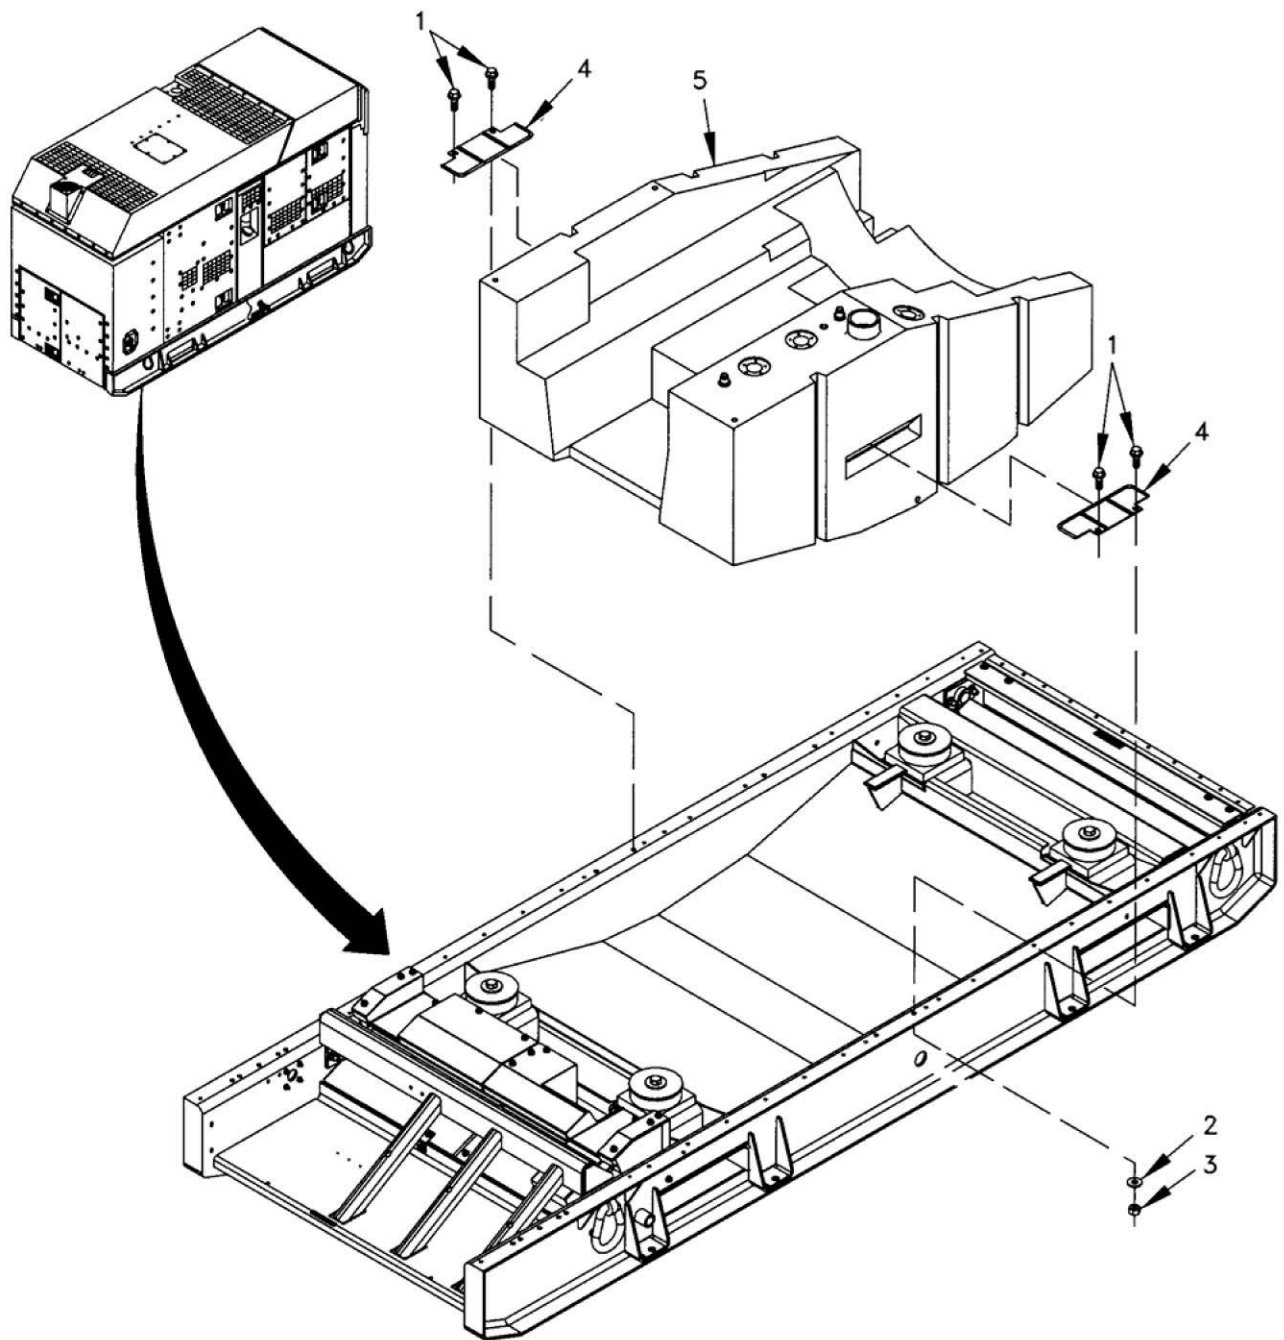

Figure 1. Fuel Tank Maintenance.
2. Remove four screws (Figure 1, Item 1), washers (Figure 1, Item 2), nuts (Figure 1, Item 3), two hold down assemblies (Figure 1, Item 4), and remove fuel tank (Figure 1, Item 5).
1. Install fuel tank (Figure 1, Item 5), two hold down assemblies (Figure 1, Item 4), four screws (Figure 1, Item 1), washers (Figure 1, Item 2), and nuts (Figure 1, Item 3).